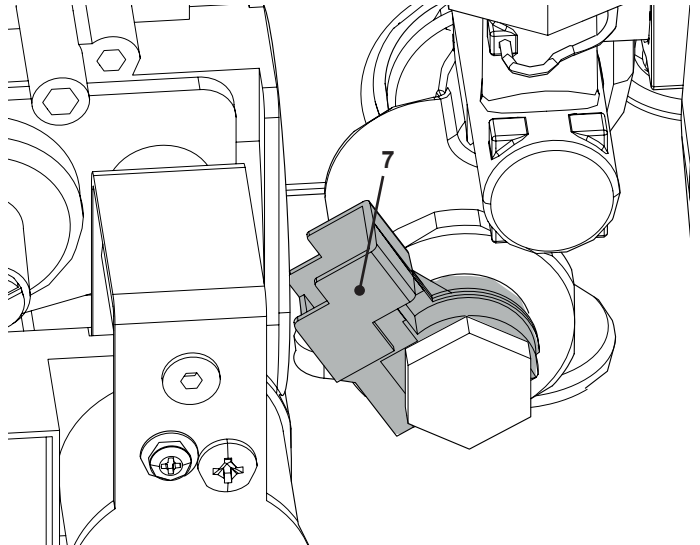
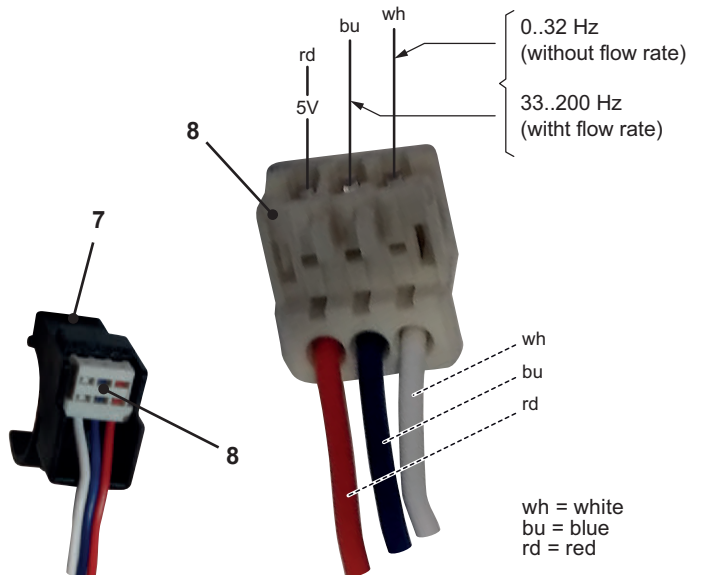

Figure 14.4
Figure 14.5
- 2 Remove the sensor holder "7" (Figure 14.4) and disconnect the connectors "8" (Figure 14.5).